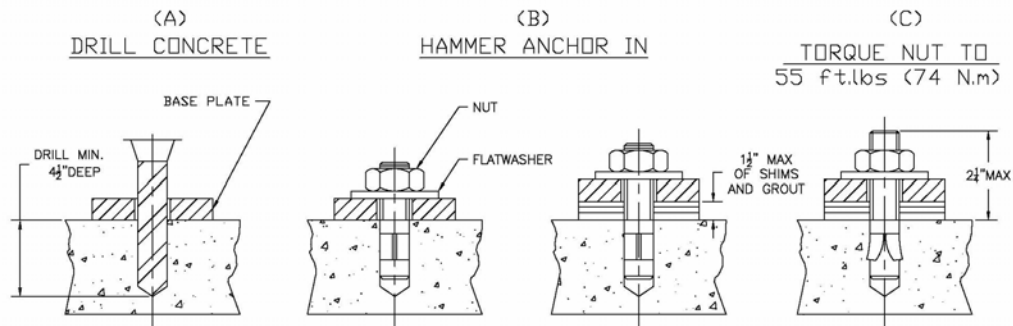

Figure 10 - Anchoring
3. Using a rotary hammer drill and a 1/2" concrete bit, drill through the floor at each of the four (4) anchor bolt locations on each of the base frames. Make sure that the 1/2" concrete drill bit is in good condition. Refer to **Figure 10**.